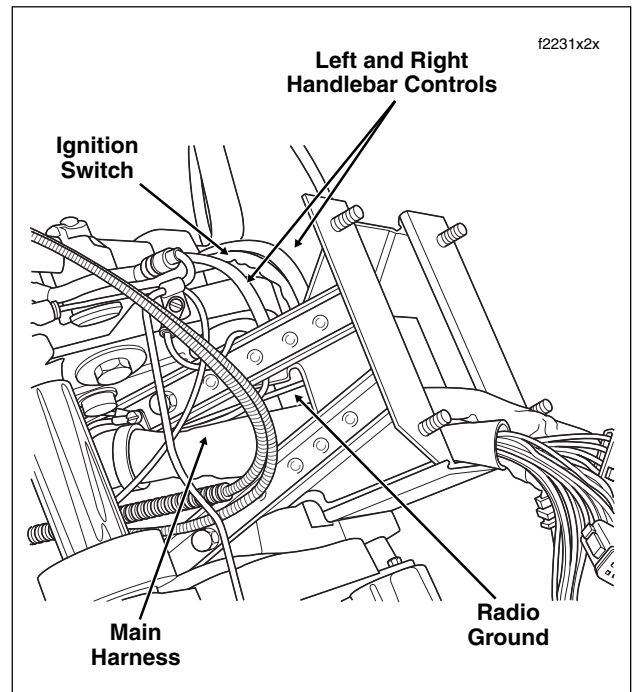

Figure 2-171. Route Main Harness and Conduit Thru Fairing Bracket
2. Route ignition switch and handlebar switch control conduit through opening at top of fairing bracket. See Figure 2-171.
3. Route main harness and both radio ground and harness ground ring terminals through opening on right side of fairing bracket. See Figure 2-171.